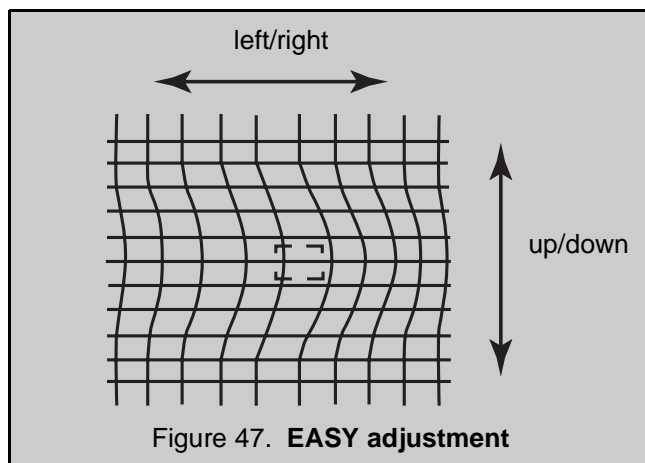

Figure 47. **EASY** adjustment
7. This mode affects a wide area around the cursor than other adjustment modes, See values on screen by pressing RECALL on remote (see Figure 47)